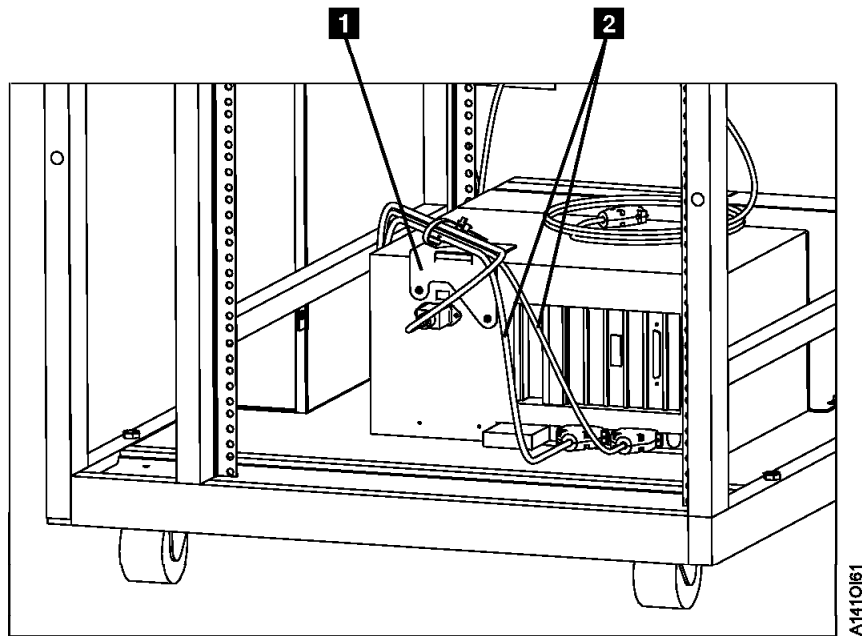

Figure 6-19. Drive SCSI Cable Routing
- \_\_\_ 8. Remove the SCSI cables from the A00 to Drive 0 and Drive 1 that are in the service position. (Refer to Figure 6-19 on page 6-37.)